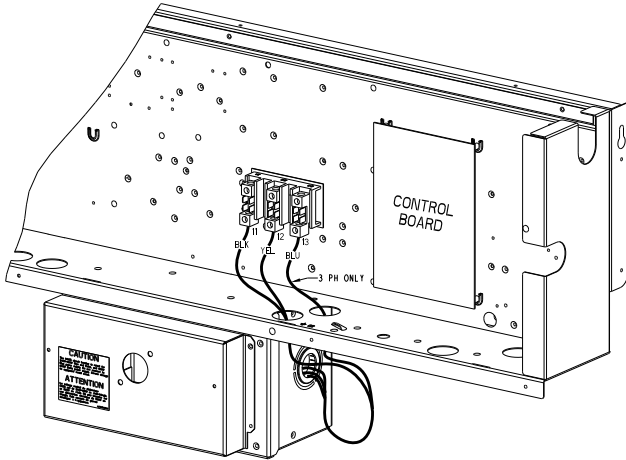

Fig. 30 — HACR Enclosure Location
1. Remove the Control Box access panel. The HACR enclosure is located below the Control Box (see Fig. 30).